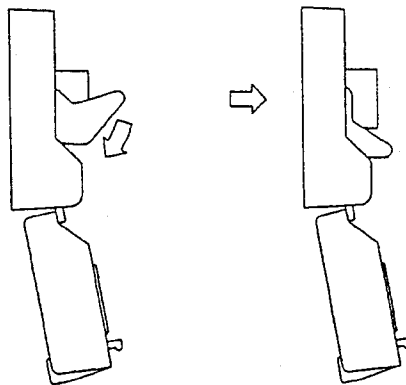

Fig. 5-5
5. Then, hold down the lever until it clicks. Thus, the lever is locked (see Fig. 5-5).